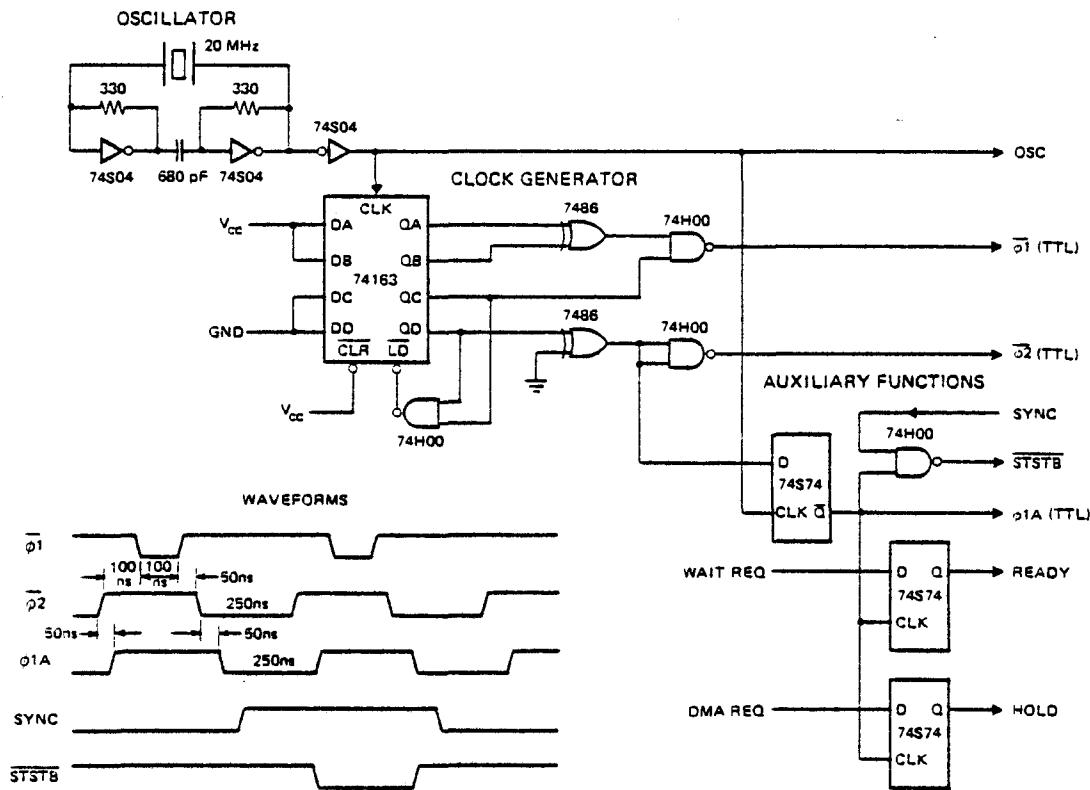

Figure 3-3. 8080 Clock Generator
The oscillator provides a 20 MHZ signal to the input of a four (4) bit, presettable, synchronous, binary counter. By presetting the counter as shown in figure 3-3 and clocking it with the 20 MHZ signal, a simple decoding of the counters outputs using standard TTL gates, provides proper timing for the two (2) 8080 clock inputs.
The Clock Generator diagram also shows how to generate an advanced timing signal ( $\phi_1A$ ) that is handy to use in clocking "D" type flipflops to synchronize external requests. It can also be used to generate a strobe (STSTB) that is the latching signal for the status information which is available on the Data Bus at the beginning of each machine cycle. A simple gating of the SYNC signal from the 8080 and the advanced ( $\phi_1A$ ) will do the job. See Figure 3-3.